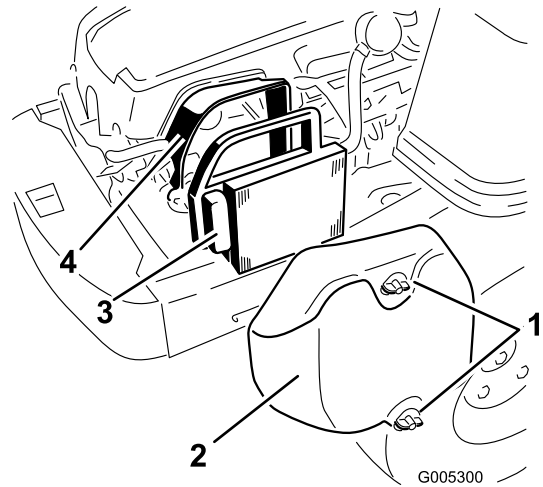

Figure 23
1. Remove the air cleaner cover (Figure 23).
2. Remove the air cleaner element with the integral rubber seal (Figure 23).
5. Install the air cleaner element with the pleated side “out” and seat the rubber seal onto the edges of the air cleaner base (Figure 23).
6. Reinstall the air cleaner cover and secure with the two knobs (Figure 23).